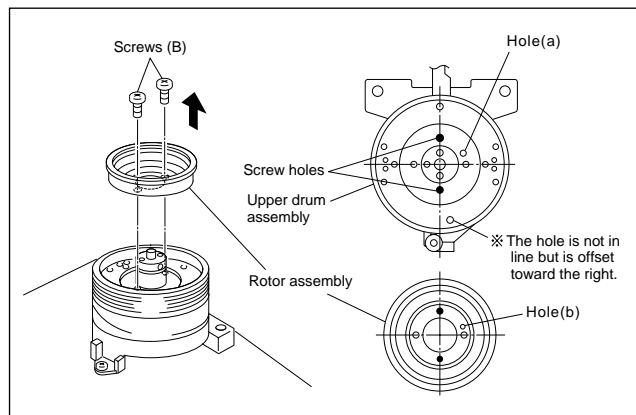

Fig. 2-2-24a
- (3) Match the phases of the upper drum assembly and the rotor assembly as indicated in Fig.2-2-24a.
- (4) Place the upper drum assembly hole (a) over the rotor assembly holes (b) (with three holes to be aligned) and tighten the two screws (B). (See Fig.2-2-24a.)